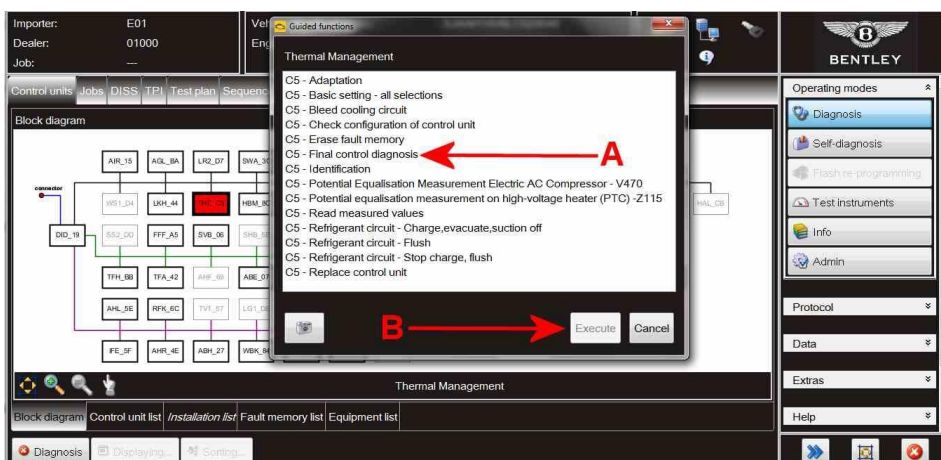

Figure 2
- Referring to Figure 2 - Select C5 - Final control diagnosis (Point A)